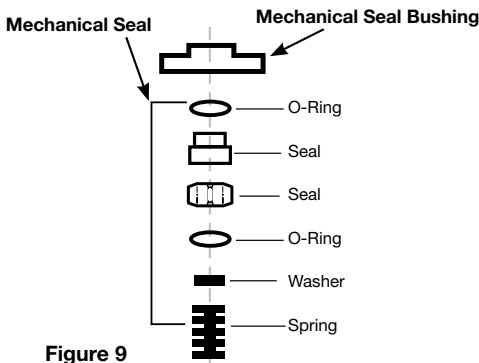

Figure 9
2. The mechanical seal will be exposed in the lower portion of the mechanical seal bushing (see Figure 9).